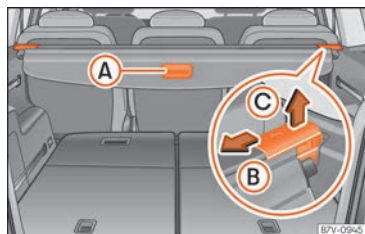

**Fig. 141** In the luggage compartment: luggage compartment tray.
- Pull the shelf handle » **Fig. 141 A** a little bit backwards.
- Release the shelf in the direction of the arrow » **Fig. 141 B**.
- Lift the shelf off in direction of the arrow »» **Fig. 141 B**.
- Release the shelf in the direction of the arrow »» **Fig. 141 B** and lift it in the direction of the arrow **C**.